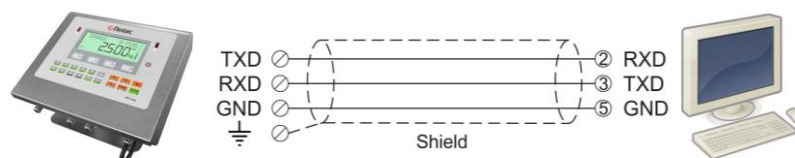

Figure 4.12 – 3 wire RS 232C connection with a PC or PLC
**3 wire connection to the peripherals:** RS 232C serial connection is done with three wires as indicated below in Figure 4.12 for bi-directional interfacing. Typical application is bi-directional BSI format interfacing with PC or PLC.